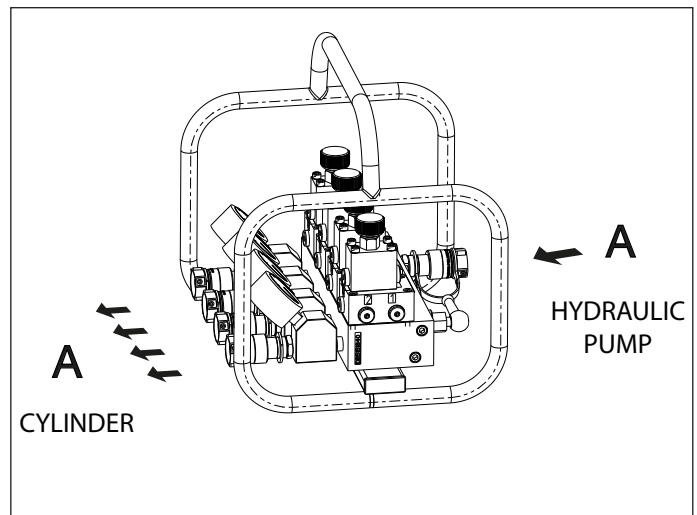

Figure 2, Connections Scheme for SFM41 Manifold
Refer to Figure 2 for references.
- Advance the cylinder: Select in the rotary knob of each flow control valve the desirable flow per outlet. Set the relief valve on the main hydraulic pump 1,500 - 2,900 psi [100 - 200 bar] higher than the working pressure of the cylinders. Operate the hydraulic pump and directional valve so that oil flow is directed at a controlled rate from the hydraulic pump to the Split Flow Manifold inlet "P". Be sure the lowering valve is manually closed clockwise prior to operation. Oil flow will be directed from outlet "A" to the advance port of the cylinder to extend the plunger (see Figure 2).